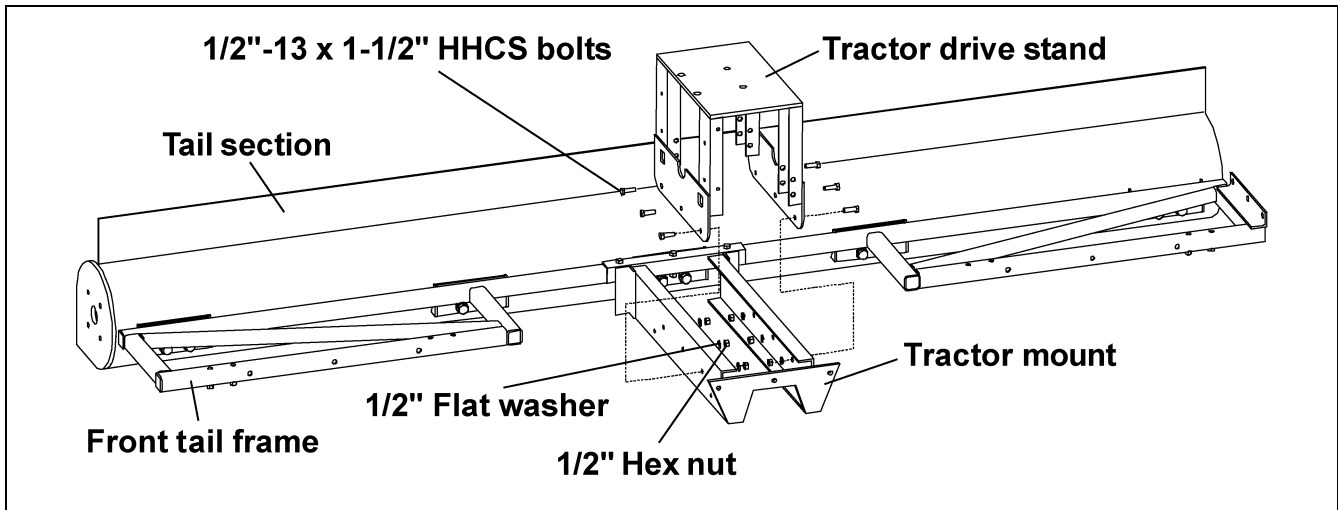

Figure 5E
4. Fasten tractor drive stand to tractor mount using six (6) 1/2"-13 x 1-1/2" HHCS bolts, flat washers and hex nuts. (See Figure 5E.)